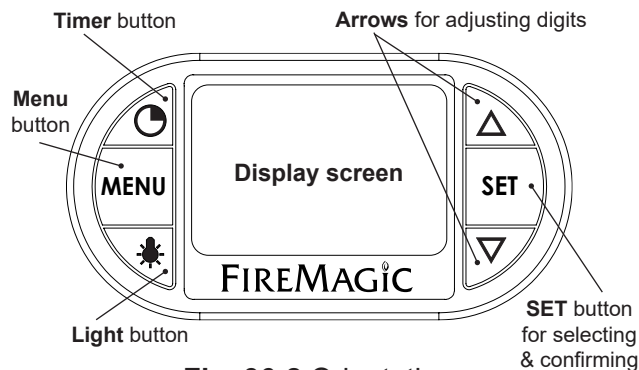

Fig. 36-2 Orientation
Read the following sections completely regarding thermometer operation. Refer to Fig. 36-2 for thermometer orientation and button locations.
1. Press the light button to turn both the interior oven lights and knob backlights **ON** (see Fig. 36-2). The interior oven lights will temporarily shut off when the hood is closed (except for Magic View models).